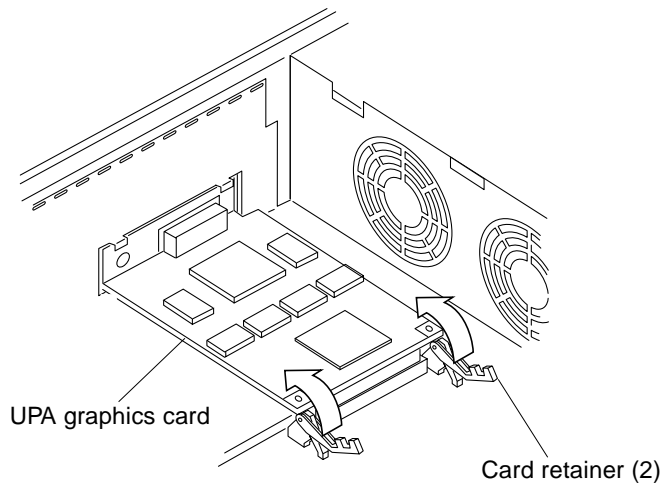

FIGURE 10-13 Securing a UPA Graphics Card into the Chassis
6. **Push the card retainer onto the UPA graphics card** (FIGURE 10-13).